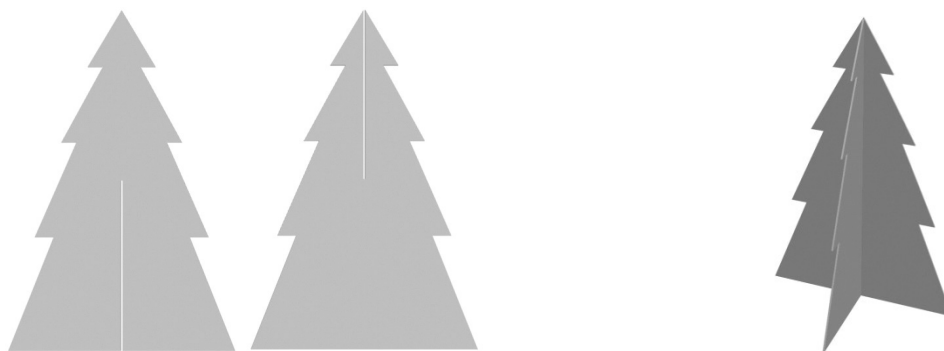

Figure 4
- 3 Figure 4 shows a handmade card model of a Christmas tree made from 2mm thick mounting board.